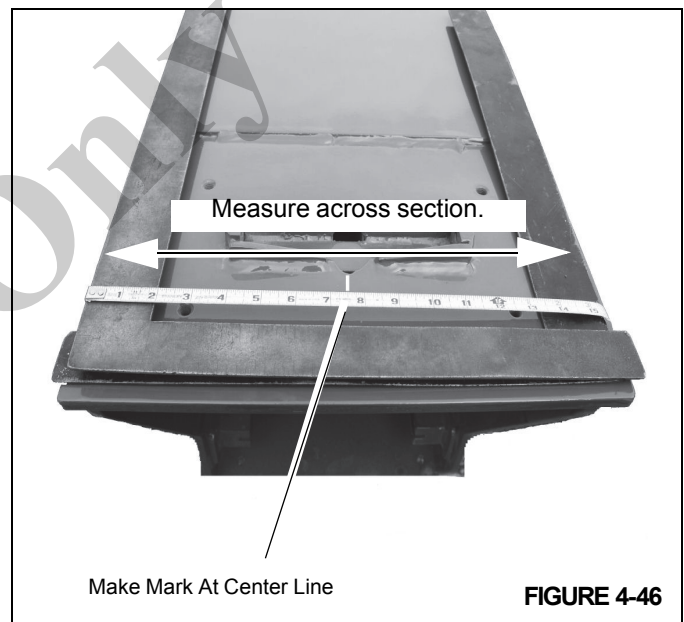

FIGURE 4-46
- b. Using the measurement obtained determine the center point of the boom section and clearly mark it (Figure 4-46).